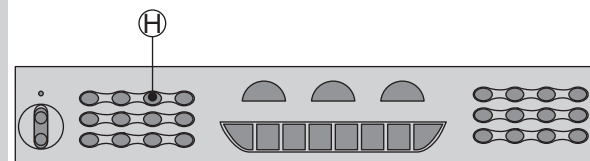
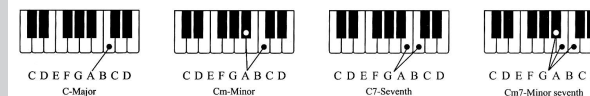

fig. 22
fig. 24
1. When the rhythm starts, press Single Finger Chord (H) and you can accompany the single finger chord according to the different fingering in the chord-key part (Keys 1-18). The fingering is shown as Fig. 24. **See fig. 22 and 24**
4. **Minor seventh:** press keynote key and one black key and one white key on the left simultaneously. **See fig. 24**